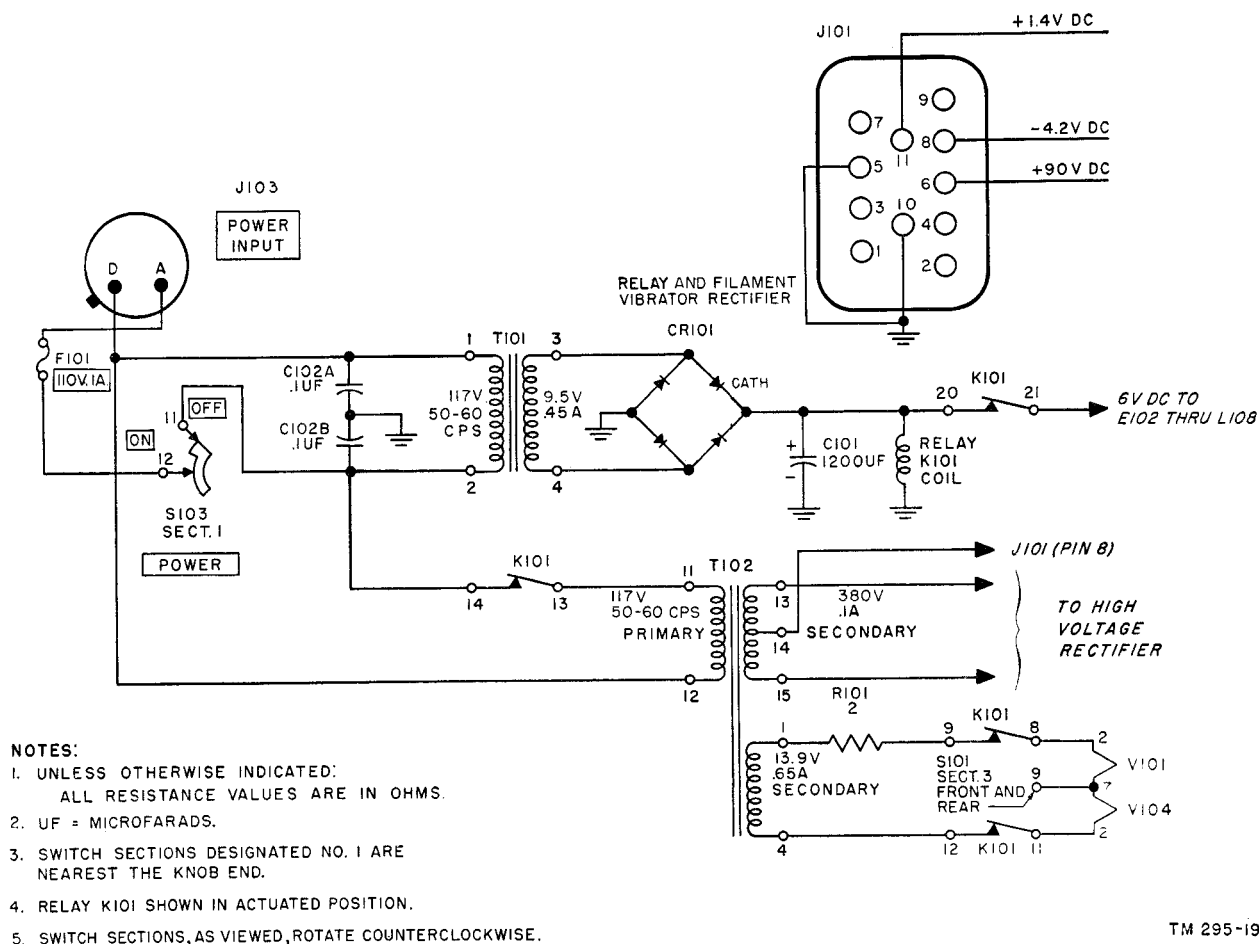

Figure 18. Power Supply PP-308/URR, 115-volt a-c operation, functional schematic.
b. For 115-volt a-c operation, the line voltage is stepped down by a transformer and the lower voltage is supplied to rectifier CR101 (fig. 18). The rectified voltage energizes relay K101. When relay K101 is energized, the 115-volt a-c line is completed to the rectifier circuit associated with V102, and the output of rectifier CR101 is supplied to filament voltage vibrator E102. Bias and hv (high voltage) are developed by the circuit associated with V102. Filament voltage is developed by V104, E102, and CR102. Regulator tubes V101, V103, and V104 maintain substantially constant output voltages.
46. Analysis of 115-volt A-c Operation (fig. 18)